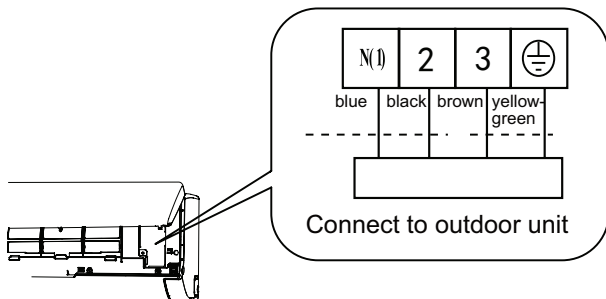

Fig. 13
- (3) Remove the wire clip; connect the power connection wire to the wiring terminal according to the color; tighten the screw and then fix the power connection wire with wire clip. (As show in Fig.13)